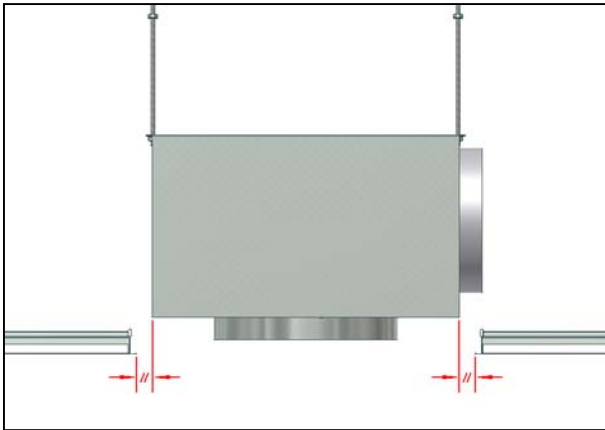

Figure 1: Centralise Plenum
1. Install the Plenum Box prior to fitting the ceiling grid by suspending it from its mounting holes with Drop Rods (supplied by others). When the grid has been fitted, centralise the Plenum in both directions within the opening where the Diffuser is to be fitted (see fig 1).